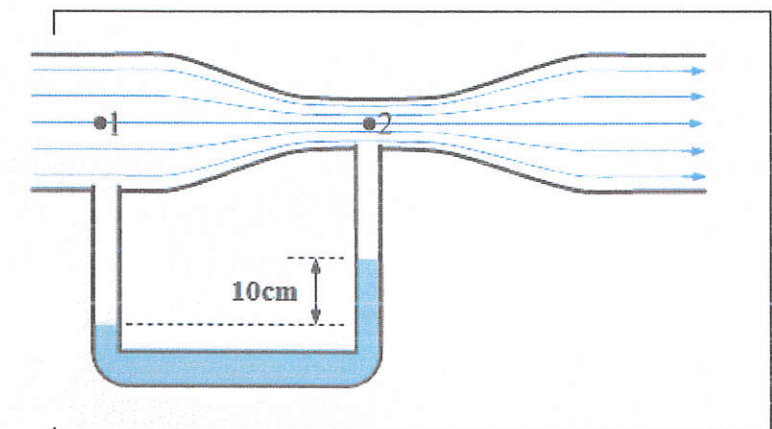

Figure 3
- b) A horizontal venturi meter with an inlet diameter of 30cm and throat diameter of 15cm is used to measure the flow of water. The reading in the differential manometer connected to the inlet and throat is 10cm of mercury. Determine the flow rate if the coefficient of venturi meter is 0.98. Refer **Figure 3**.